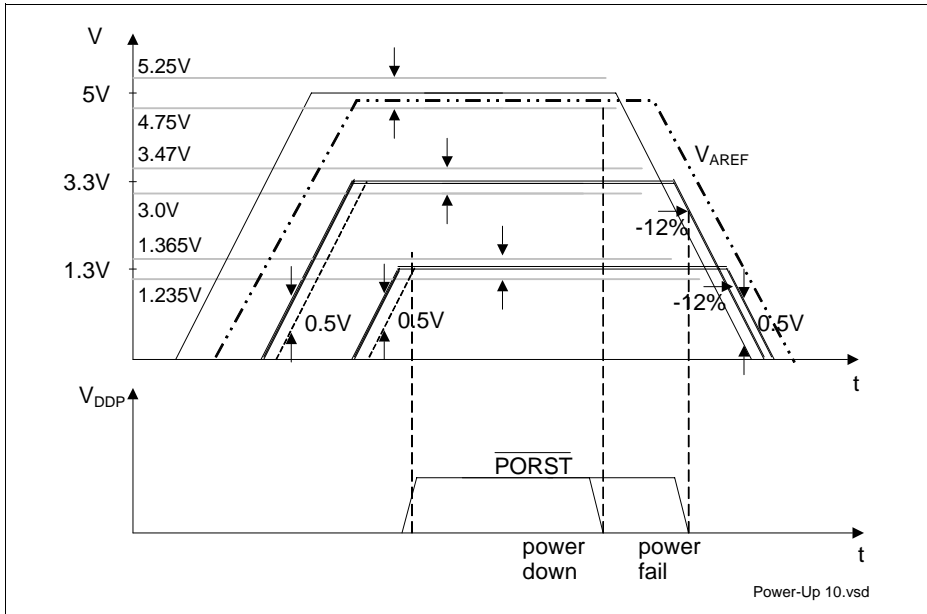

Figure 14 5 V / 3.3 V / 1.3 V Power-Up/Down Sequence
- At any moment in time to avoid increased latch-up risk, each power supply must be higher than any lower_power_supply - 0.5 V, or: $V_{DD5} > V_{DD3.3} - 0.5 V$; $V_{DD5} > V_{DD1.3} - 0.5 V$; $V_{DD3.3} > V_{DD1.3} - 0.5 V$, see Figure 14.